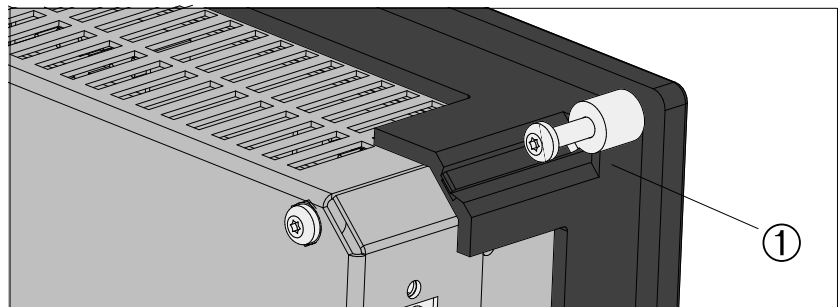

Figure 2-4 Securing Post Engaged, with Screw
5.	Screw the 4 securing screws supplied with the C7 into the 4 securing posts (see Figure 2-4 ①).